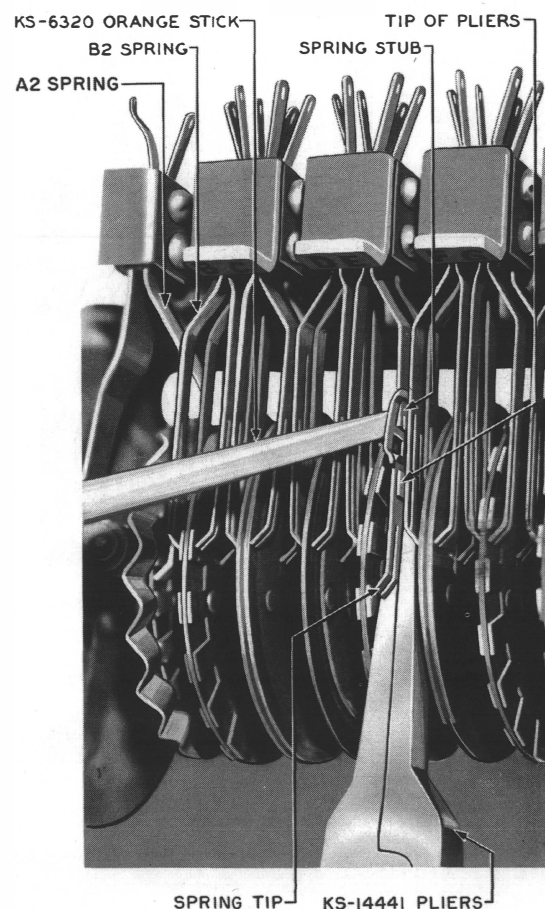

Fig. 2 – Method of Mounting Outer Spring Tips
3.05 Except when placing a new spring tip on a B2 spring, grasp the tip from below just behind the bend at the contact end, using the KS-14441 pliers. For B2 springs, grasp the new tip from above instead of below. Push the spring tip onto the spring stub. Use the KS-6320 orange stick to guide the stub into the openings of the tip as shown in Fig. 2. Push straight in and at the same time move the outer end of the tip up